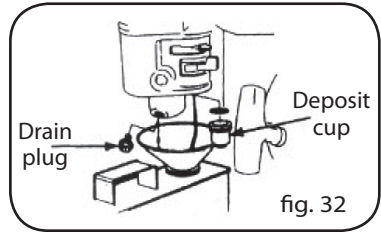

fig. 32
1. Replace engine oil (Fig. 32).